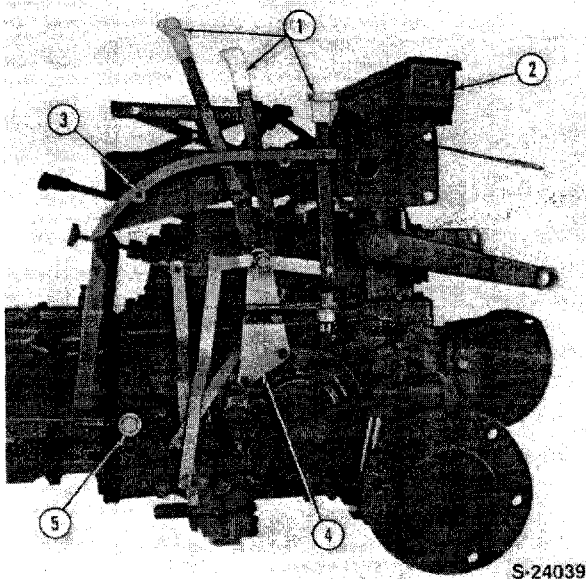

Figure 36
16. Remove the platform and tool box as an assembly, Figure 36.
21. If equipped with hydrostatic transmission, remove the transmission oil return tube, Figure 36.